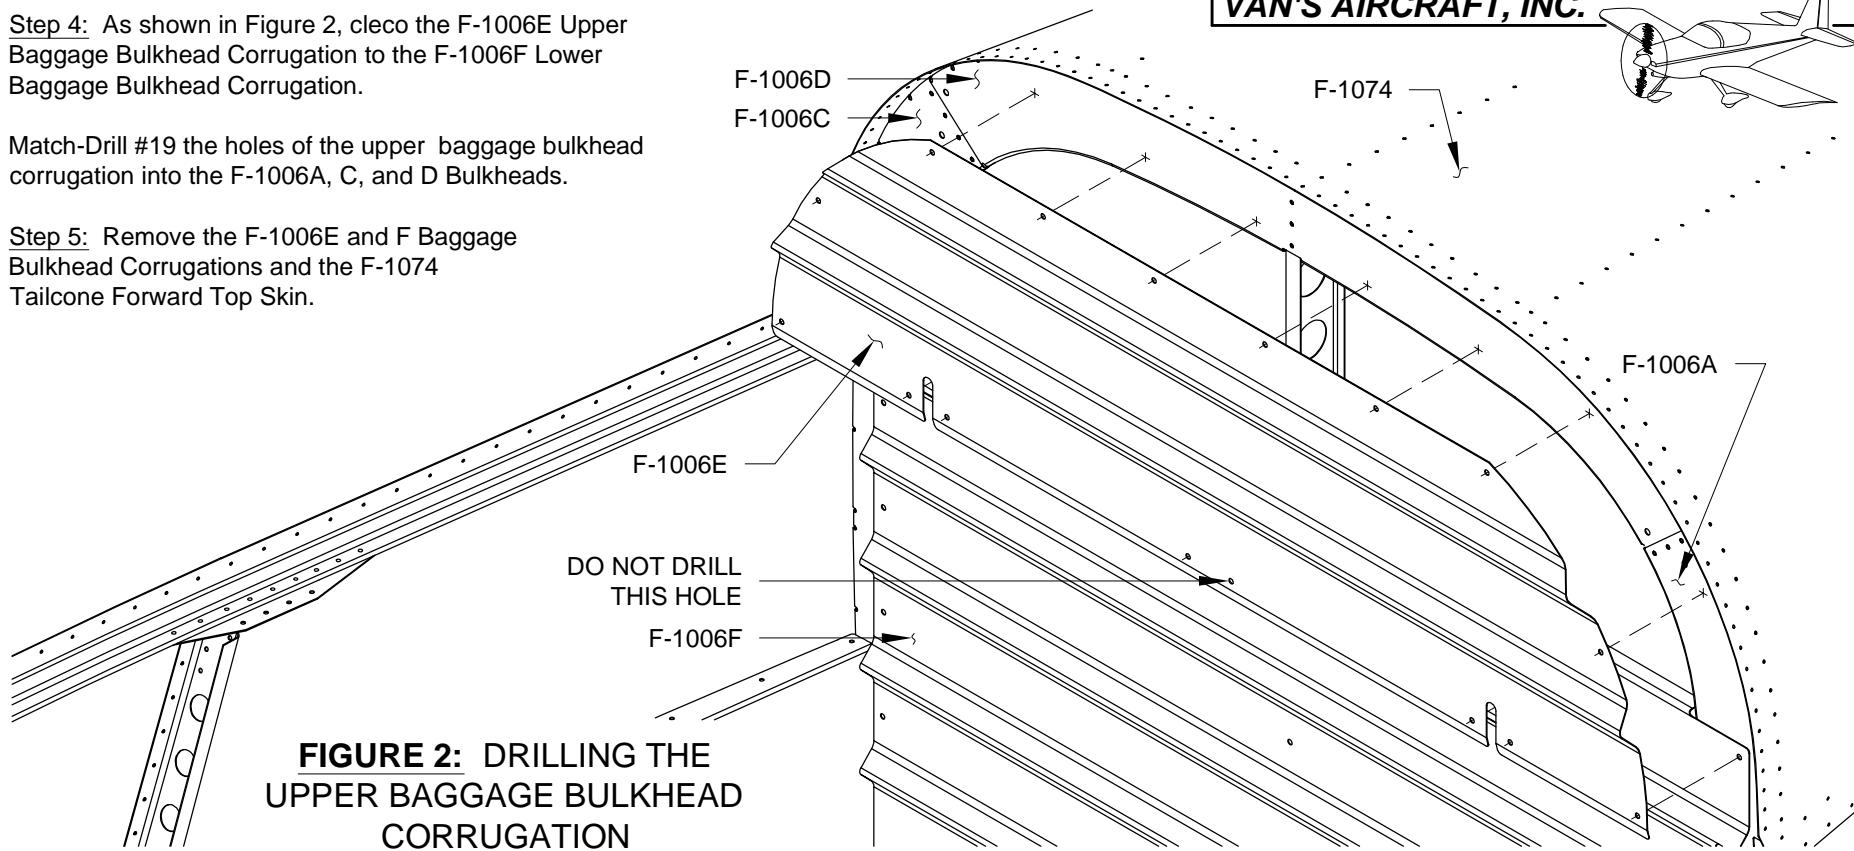

FIGURE 2: DRILLING THE UPPER BAGGAGE BULKHEAD CORRUGATION
Step 4: As shown in Figure 2, cleco the F-1006E Upper Baggage Bulkhead Corrugation to the F-1006F Lower Baggage Bulkhead Corrugation.